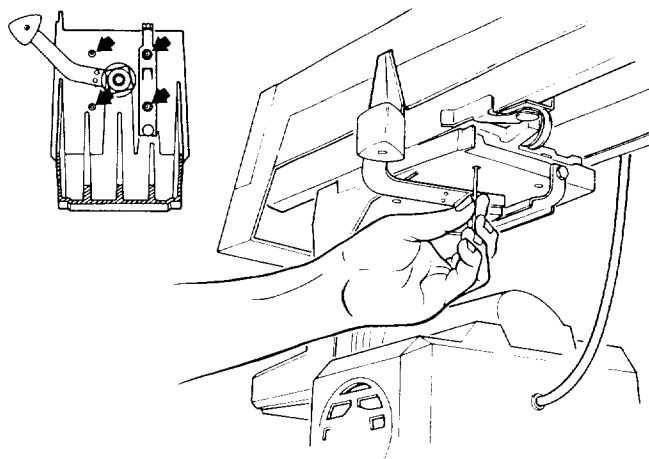

Fig. 66
7. Loosen the four screws under the *yoke* using a 3/16 inch hex-L wrench and pliers if necessary. (Figure 66)